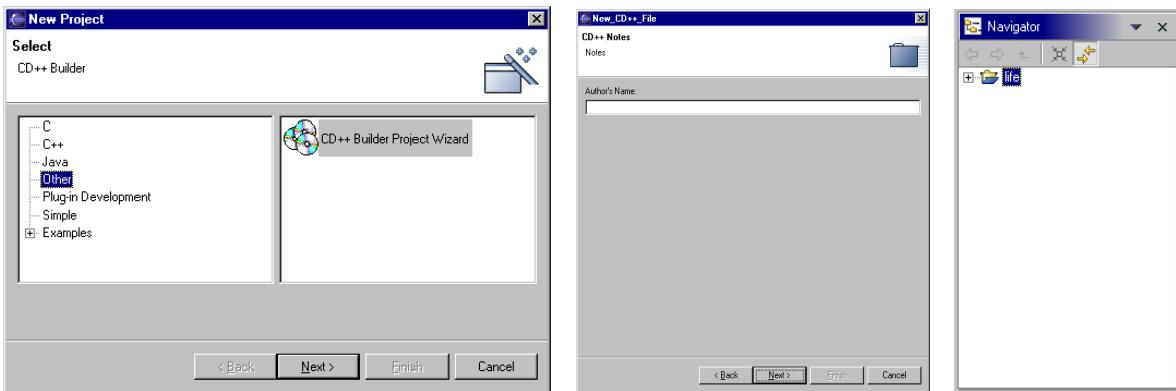

Figure 4 (a) New project wizard panel; (b) CD++Builder Project Wizard; (c) Navigator.
The first step to start a simulation is to create a new project. Open Eclipse and make sure that the CD++Builder perspective is open (if not open, refer to the instructions earlier in this section). Click on the “File” tab, select “New”, and click on “Project...”. This will bring up a new project wizard panel as shown in Figure 4(a). Select “Other”, and on the right side of the project wizard panel, select “CD++Builder Project Wizard”. Click “Next” to start the creation of a CD++Builder project.
At this stage, the CD++Builder Project Wizard will be opened and the author name will be asked, as showed in Figure 4(b). Enter the project author's name and click *Next*. The wizard will ask for the project name. Enter *life* and click on *Finish*. The newly created project can be seen in navigator view, as illustrated in Figure 4(c).
Step 2. Click on **File → New → Project**. This will bring up a new project wizard panel as shown in Figure 4(a). On the left side of the project wizard panel select “Other”, and on the right side select “CD++Builder Project Wizard”.
Step 4. Enter *atm* as the project name and click on *Finish*. The newly created project can be seen in navigator window, as illustrated in Figure 4(c).